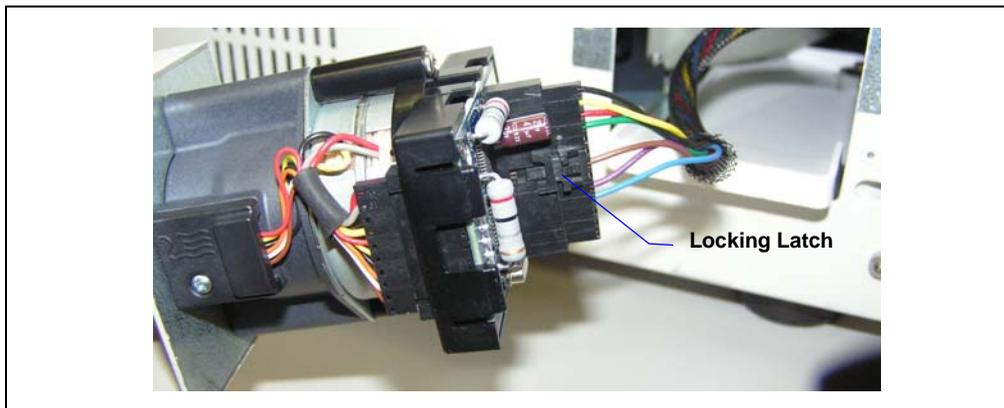

Figure 5-16. Disconnecting the Valve Cable
- b. Slide the valve assembly partway out of the chassis, press the locking latch on the cable (see Figure 5-16), and disconnect the valve cable.